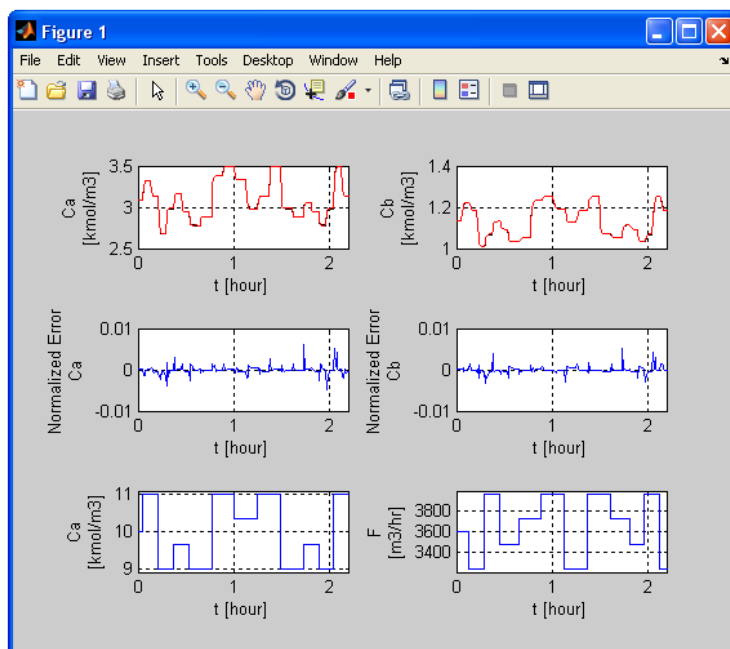

Figure 37: Predictions for Validation Sequence using High-Fidelity Model History data
5. Use the commands under the “Post-Process” menu to predict the training and validation responses using the NARMA D-RM that has just been generated and then visualize the results. For example, click  followed by  on the toolbar to plot the predictions for the validation sequences. Figure 37 shows the plots of the validation data.